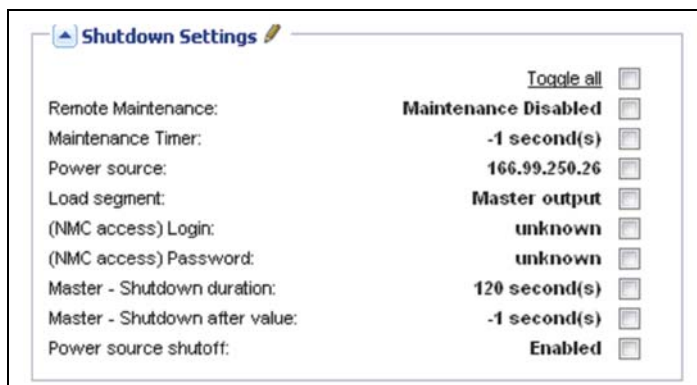

Figure 166. Shutdown Settings for VM Host with Eaton IPM
2. In the Shutdown Settings panel on the right side of the page, select the applicable checkboxes to configure the required parameters (see Figure 166 and Table 8).